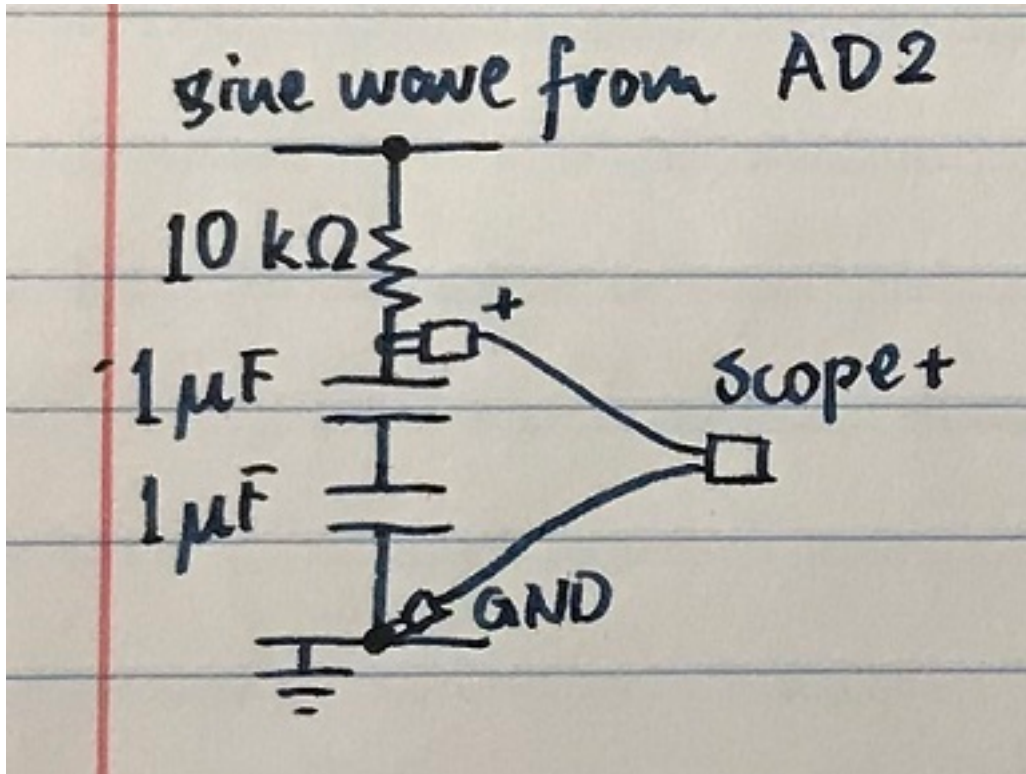
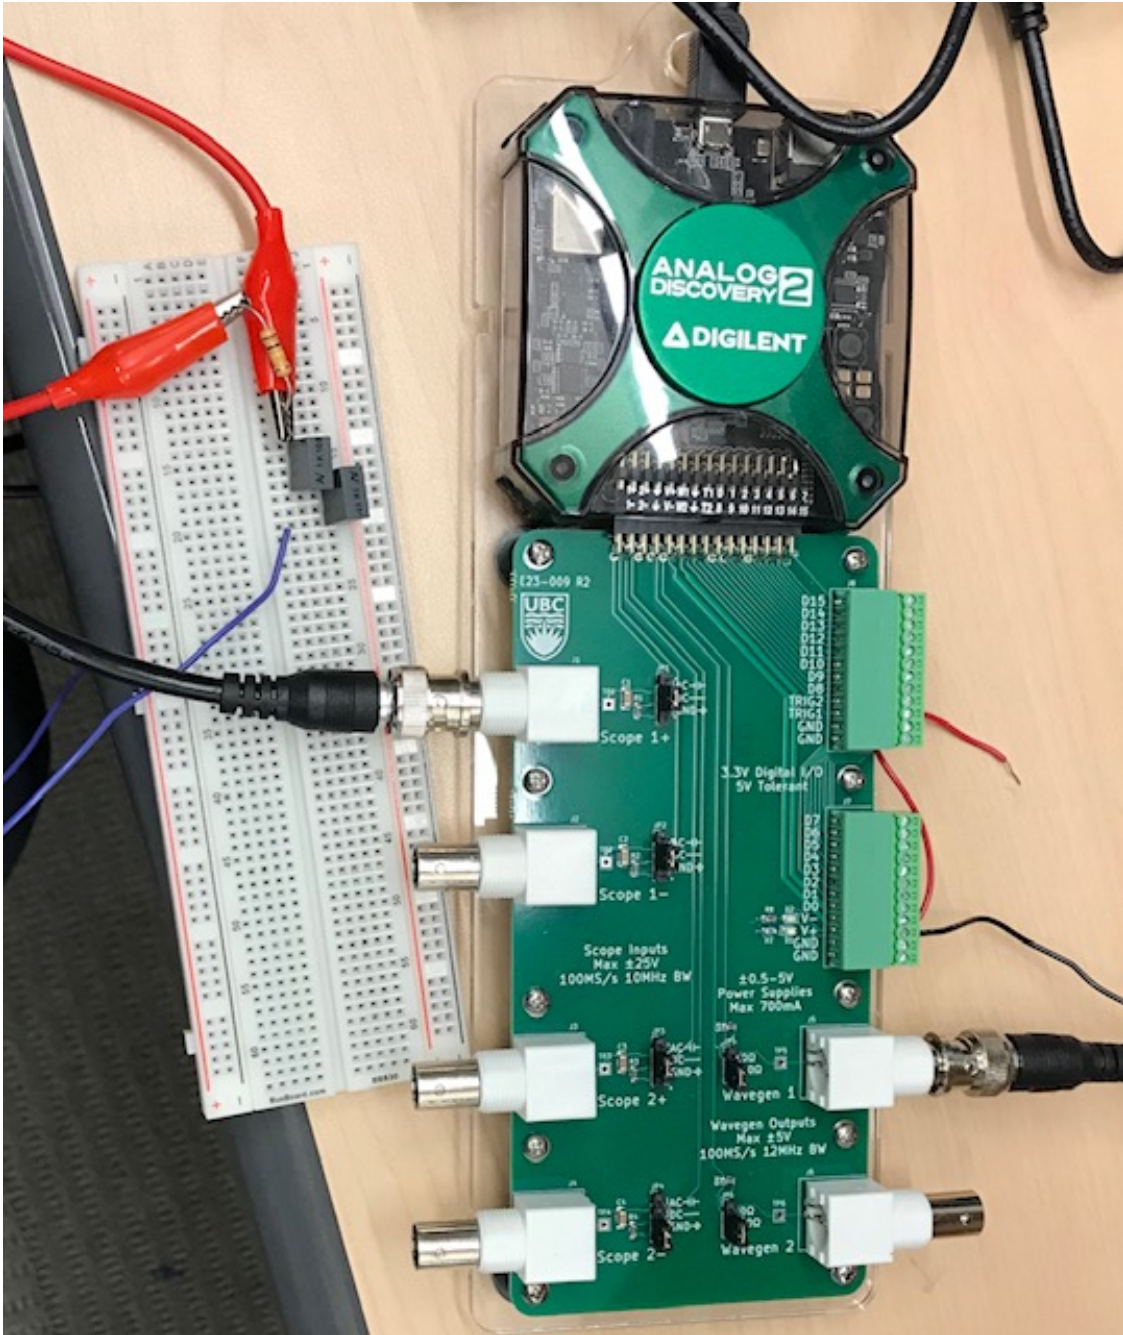

Figure 8: RC circuit for finding f_{3dB} of circuit
Figure 9: RC circuit setup on breadboard for determining f_{3dB}
- I have a 10 k Ω resistor in series with these two capacitors like in Figure 8, and with the setup in Figure 9.